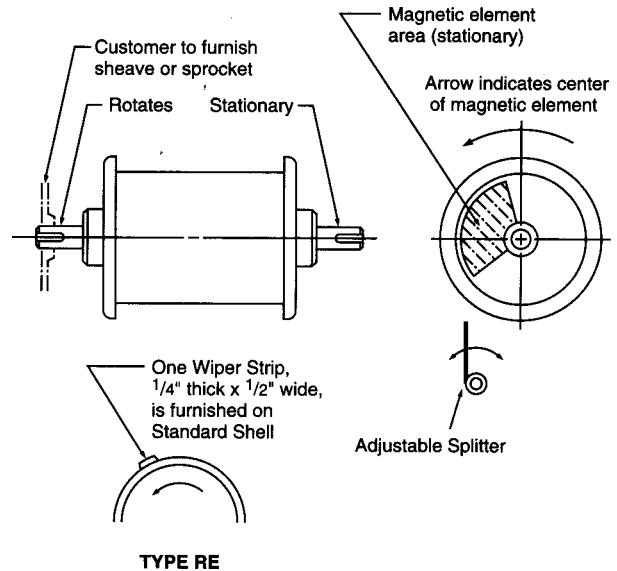

FIGURE 14
1. Drum should be installed on a support frame using a pillow block bearing on the shaft extension which is keyed and a shaft clamp block on the opposite shaft extension. Before clamping the shaft in place, the magnetic element should be correctly positioned as illustrated in Figure 14.
2. A tramp iron divider is required and should be positioned below the drum as illustrated in Figure 14. The splitter should have a knife edge and be fabricated of a nonmagnetic material such as aluminum or stainless steel. It should be adjustable in both position and length. Correct adjustment will be determined when the unit is operating.